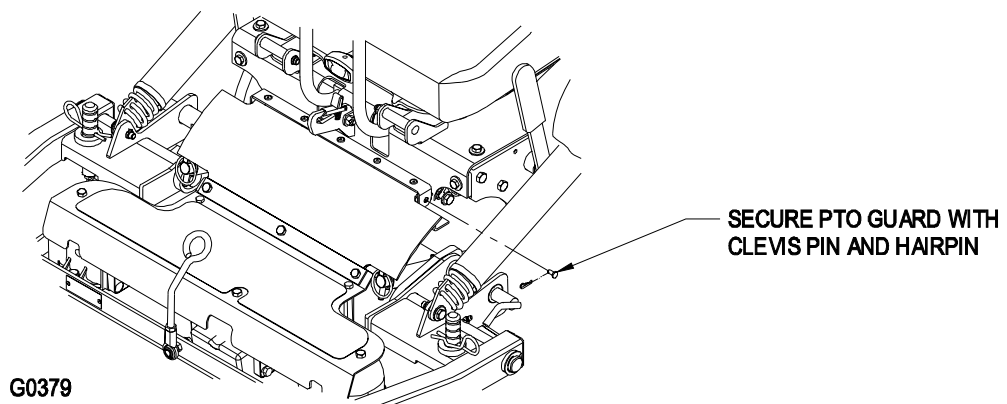

FIGURE 3
- e) Align upper portion of the PTO rubber guard to the tabs on the front of the console and secure with a clevis pin and hairpin on each side. See Figure 3.
- g) Remove hairpin and clevis from both sides of the PTO guard. See Figure 3.